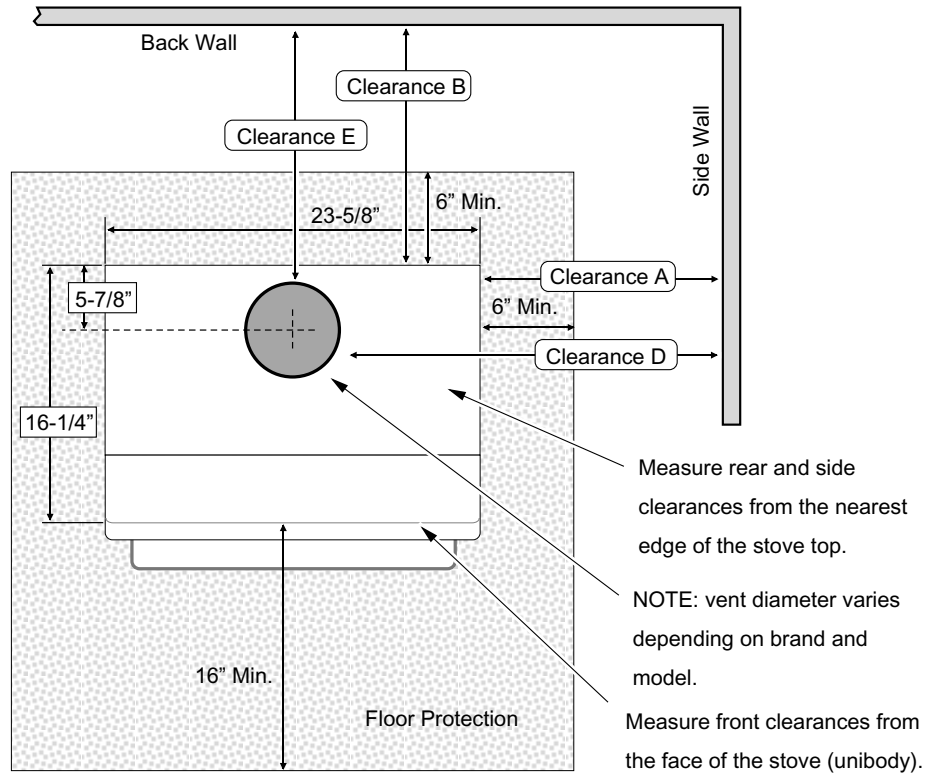
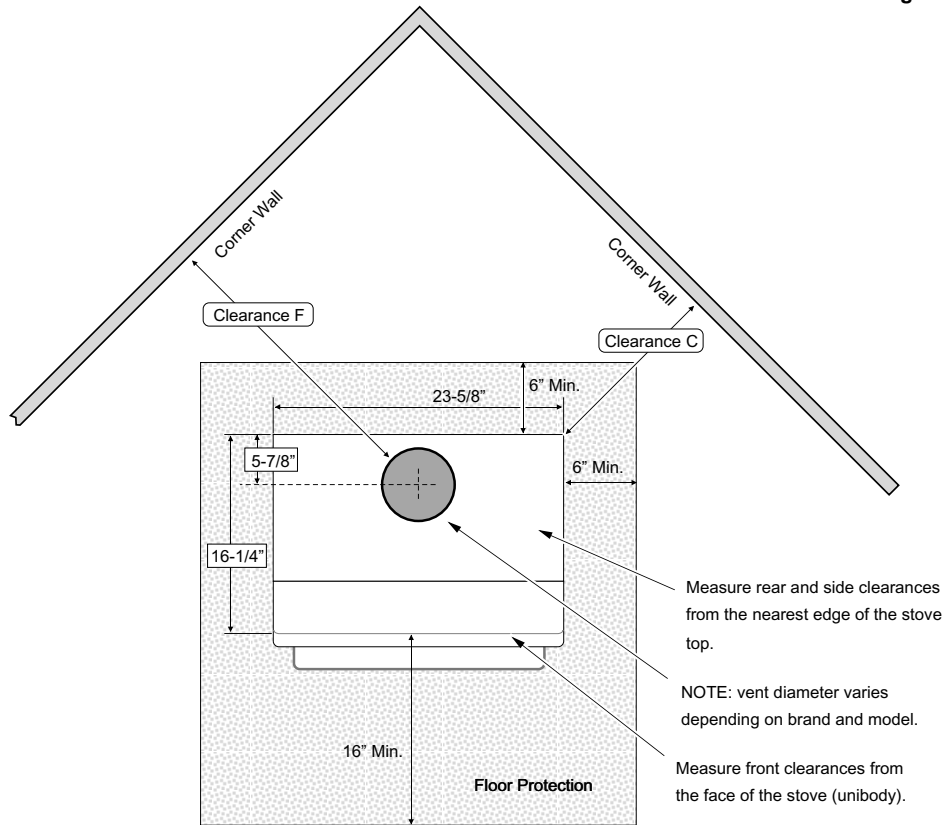

Figure 2
Figure 3
- Floor protection must extend 6" to the sides and rear of the stove and 16" to the front of the stove (35-5/8" wide by 38-1/4" deep - see Figure 2 and Figure 3).
- The following clearances must be met (see Figure 2 and Figure 3)